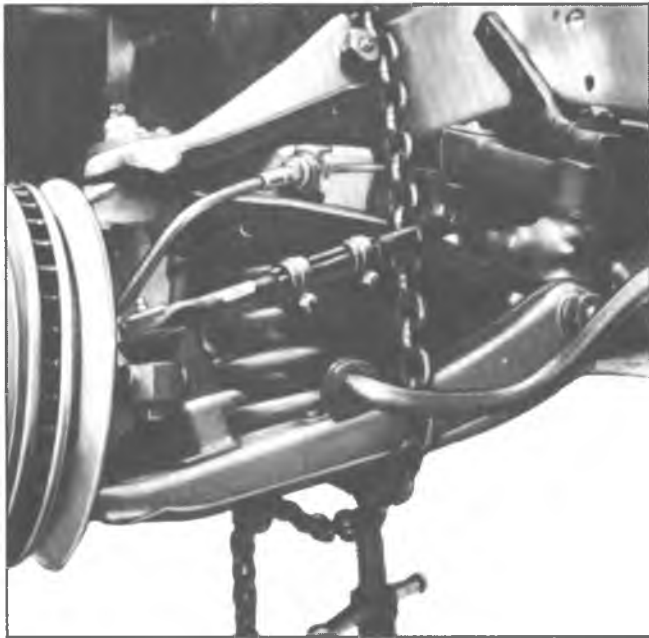

Fig. 29—Removing Inner Pivot Shaft
### Lower—Removal (Fig. 29)
3. Install a chain over upper arm (Fig. 29). Inboard of stabilizer and outboard of shock absorber as a safety measure.